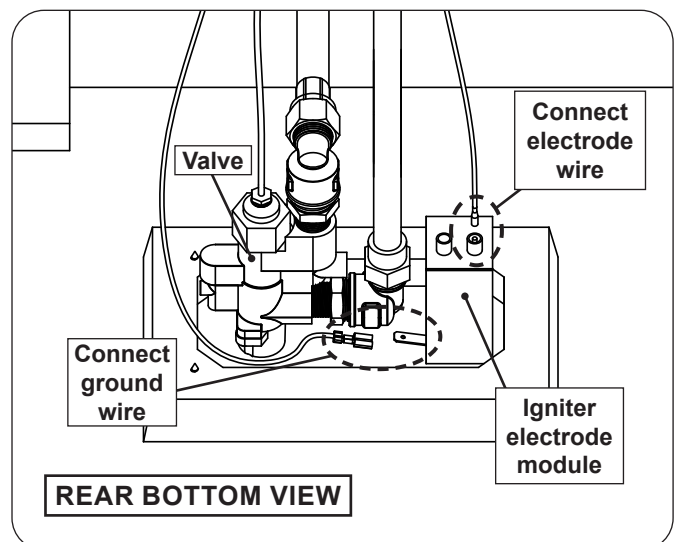

Fig. 23-3 Connect wires to electrode module
13. Locate the electrode wire and connect it to the round-pin terminal found on the back of the igniter electrode module. Then locate the ground wire and connect it to the 1/4" quick connect found on the side of the igniter electrode module (just behind the plate). See Fig. 23-3.